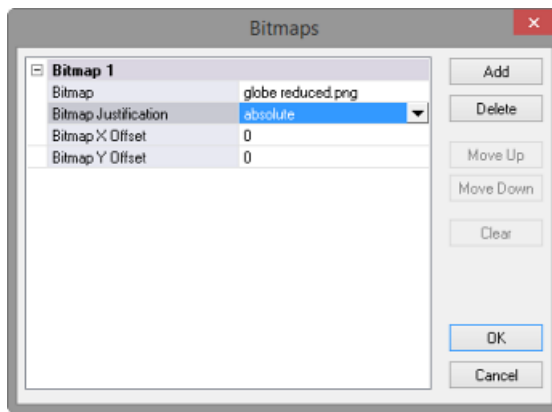

FIG. 319 Bitmaps dialog - Bitmap Justification set to Absolute
3. In the *Bitmaps* dialog, set *Bitmap Justification* to **Absolute**. For this example, leave the *Bitmap X Offset* and *Bitmap Y Offset* values at their default settings: **0, 0** (FIG. 319):